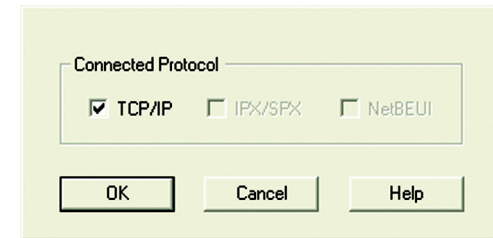

Figure 7-5: Connected Protocol
2. When the Bi-Admin Management Utility appears, it will ask for the Connected Protocol. (See Figure 7-5.) Make sure the box next to *TCP/IP* is checked. Click the **OK** button.